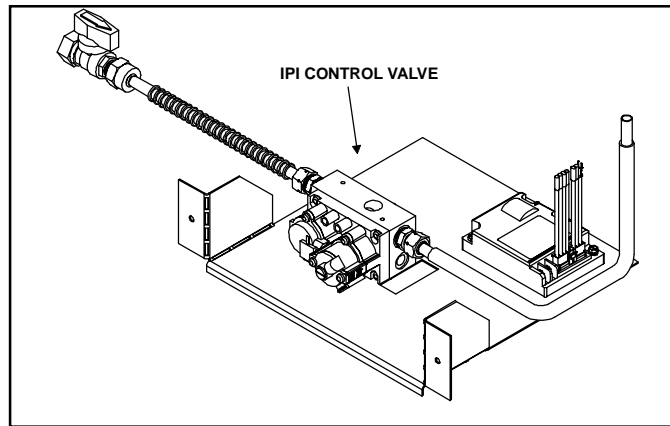

Figure 4. Intermittent Pilot Ignition
- If your fireplace's gas controls resemble Figure 4 with green and orange color-coded electrical leads (2 contact points) you have an Intermittent Pilot Ignition (IPI) system.